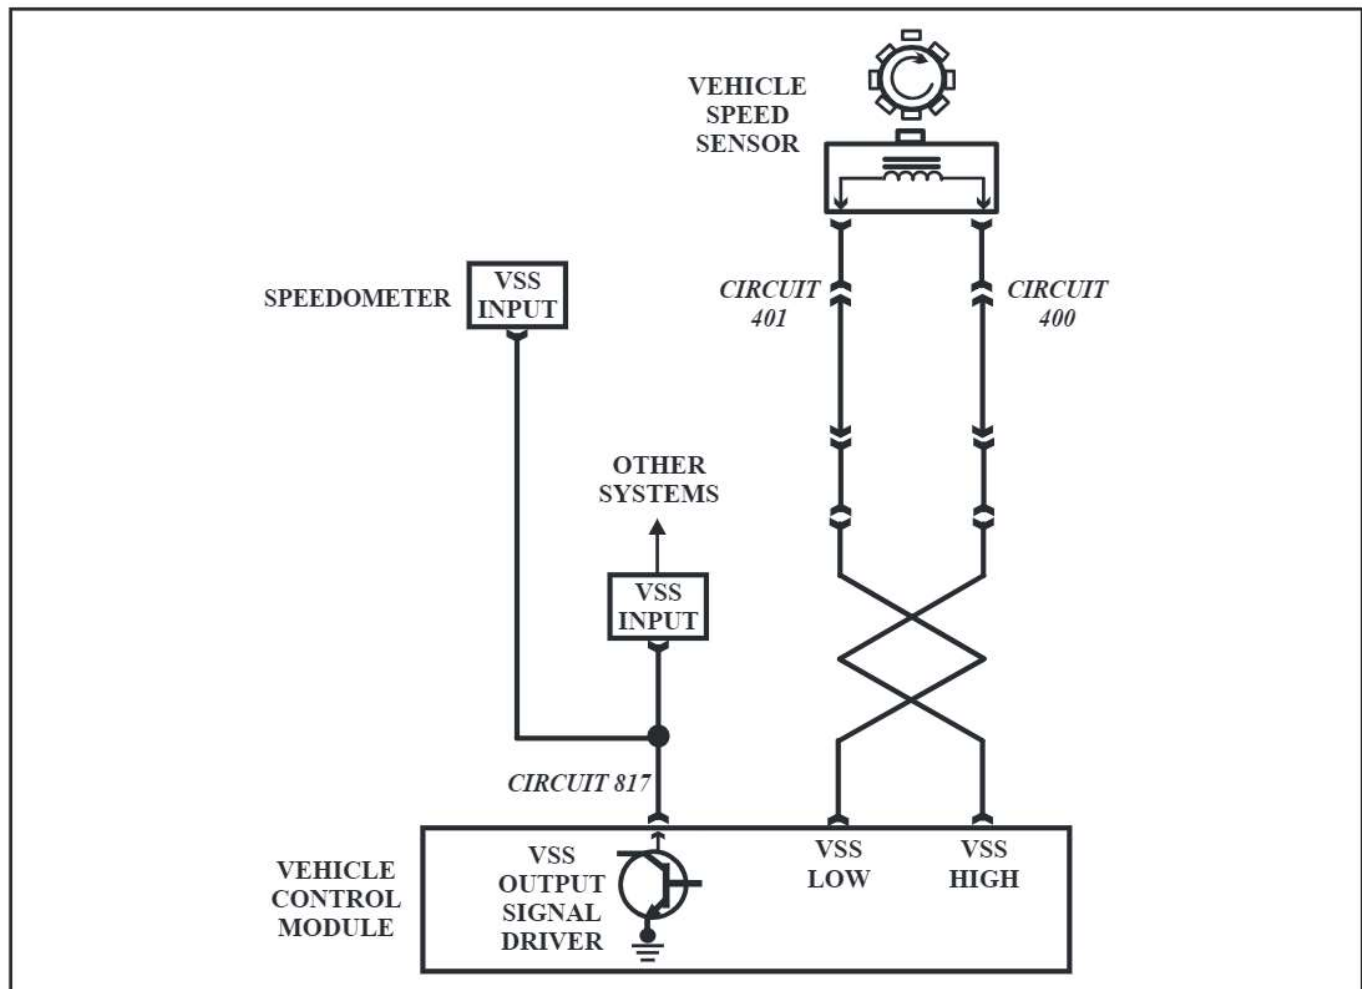

Figure 56
- A faulty Vehicle Speed Sensor, (Refer to Figure 56).
- A faulty VSS connector or circuits 400 or 401, (Refer to Figure 56).
- A faulty Vehicle Control Module, (Refer to Figure 56).
- When the VSS circuit produces no signal, check the VSS signal to the VCM on circuits 400 and 401 using Hertz or an oscilloscope. If VSS signal checks good, check the signal to the speedometer, it should toggle between approximately 12 volts and ground. If circuit 817 has 12 volts at all times, then the driver inside the VCM is not grounding the circuit. If circuit 817 is grounded at all times, the driver or circuit is grounded. If circuit 817 has zero, voltage from the speedometer head, it may be open or grounded externally to the PCM/VCM, Refer to Figure 56 below.